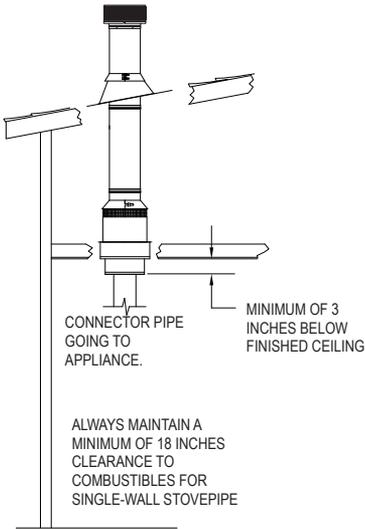

Figure 3
2. Frame Support Opening: Drop a plumb bob to the center of the appliance's flue outlet and mark this center point on the ceiling. Refer to Table 2 for specific framing and clearance dimensions. Mark appropriate cutting lines around the center point. Cut a square hole in the ceiling for the Support Box. Frame a level, square opening centered over the hole which you have cut. (*Figures 3 and 4*).